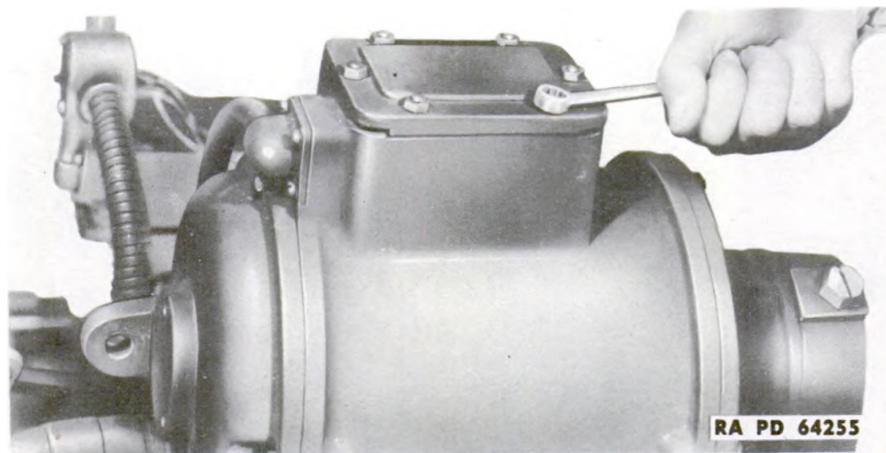
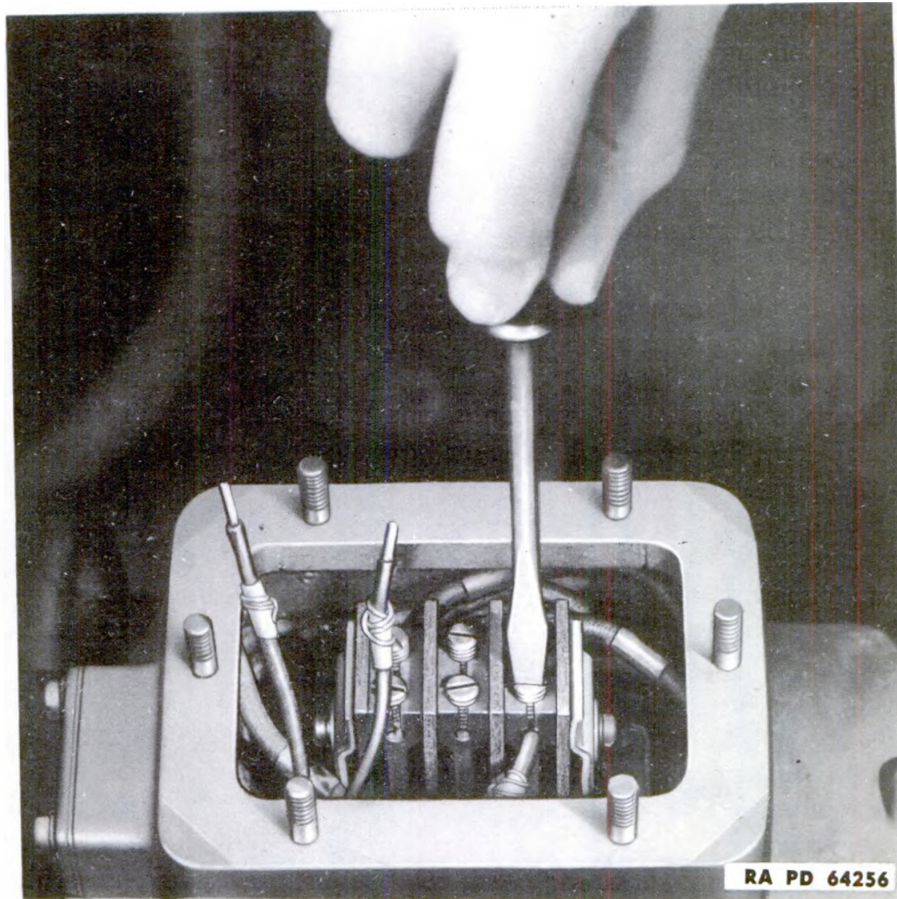

Figure 191 – Removing Top Cover From Oil Gear Motor Terminal Block
Figure 192 – Disconnecting Wires From Terminal Block
(1) Reversed oil gear motors can easily be detected by the characteristic dry sound of the oil gear; by the fact that the gun gives absolutely no indication of moving; and by removing the top plug of the chain case and noting whether or not the chain is running in the direction of the arrow on the motor housing.
(2) If an oil gear motor is found to be running backwards, first check the other oil gear motor and the director motors.
(3) If all motors are running backwards, this should be corrected at the generator by interchanging any two of the three conductors attached to one end of the fuses.
(4) If only one oil gear motor is running backwards, reverse it by interchanging any two of the three leads connected to the terminals at the top of the motor (fig. 192).
(1) Remove the terminal cover plate on top of the motor (fig. 191).
(2) Note the lead markings (mark the leads if there are no lead markings) to insure that the leads can be reconnected to the corresponding terminals.
(3) Loosen the three terminal screws (fig. 192) and disconnect the wires.